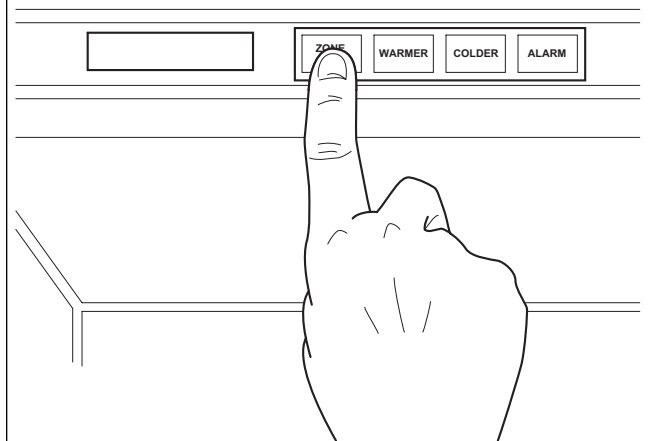

Figure 2-8. Control Panel
1. Press **ZONE** key to show the temperature set point for each zone (See Figure 2-8). Press the zone key until the desired zone is flashing on the LCD.
2. Press the **WARMER** or **COLDER** key to achieve the desired temperature (Figure 2-8). When setting is complete, wait for five seconds and the control will return to normal operation.